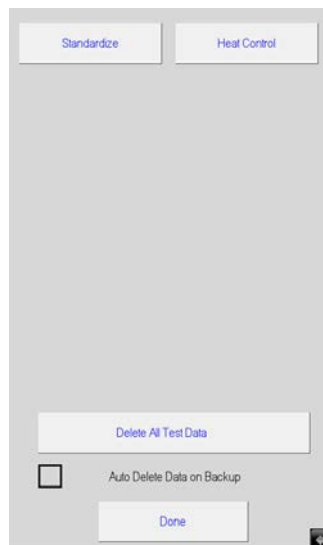
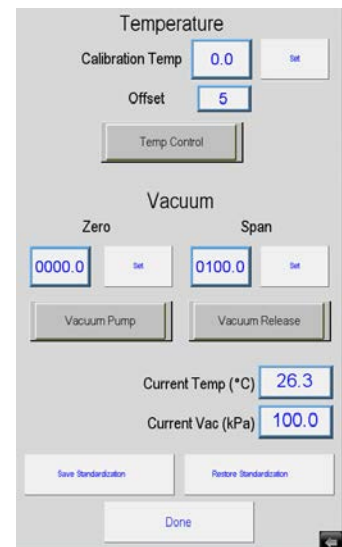

Figure D.6 - Engineering Screen
Figure D.7 - Standardization Screen
4. Press the “Engineering” button. A new screen will appear as shown in Figure D.6. Press the “Standardize” button to enter the Standardization Screen, shown in Figure D.7.